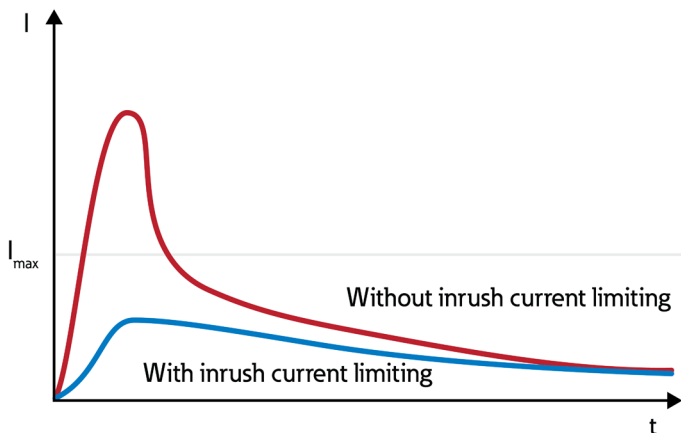

Figure 1: Sample R-T of a power NTC thermistor.
Typically, circuits will offer a low impedance when switched on. The initial low impedance could be due to the capacitors rapidly discharging, motors not turning immediately, or heaters being cold at startup. This window of low impedance could yield an “inrush” current. Power NTC thermistors, or ICLs, will exhibit a high resistance at room temperature (25 °C). This effectively absorbs the power of the peak inrush currents at startup. However, when heated, the resistance of the ICL drops sharply. This means that the ICL will heat up as a result of the current load and can drop its resistance up to between one fifth to one half of its full value (see **Figure 1**). Therefore, the power consumption of the ICL is more negligible in continuous operation. This is the major advantage of ICLs over standard fixed resistors; using these devices allows designers to establish a higher system efficiency.
- **They self-heat** - Power thermistors are resistance-based devices and can run at a high temperature during normal operation. As a result, its thermal dissipation and those of nearby heat-sensitive components may need to be considered (see **Figure 1**).